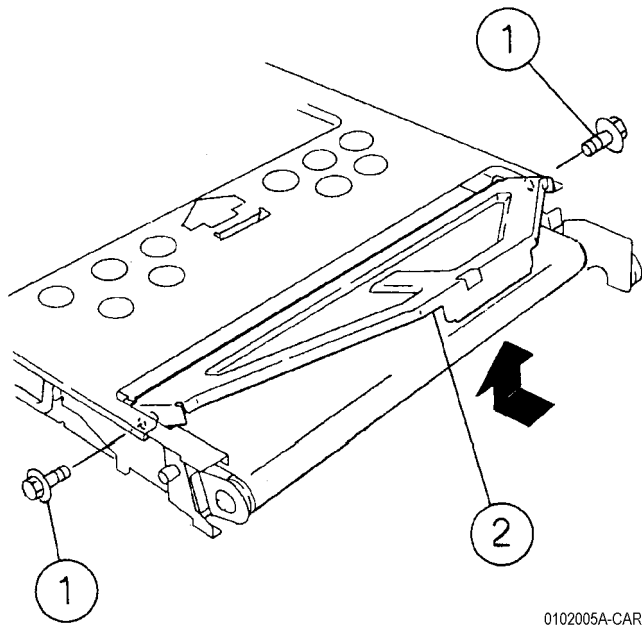

Figure 1 Removing Stand Plate
3. Remove Stand Plate (Figure 1).
- a. Remove Screw (2).